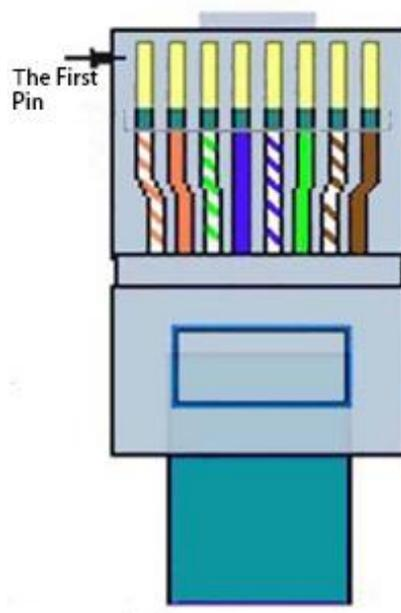

Figure 4 Network Line Sequence
- c) **POE power supply:** pin 5 (GND) and pin 8 (VCC) of the normal RJ45 Ethernet port can be used to supply power to ZLAN5443A, and the power supply voltage is between 9 ~ 24V. RJ45 network line sequence refers to figure 4.